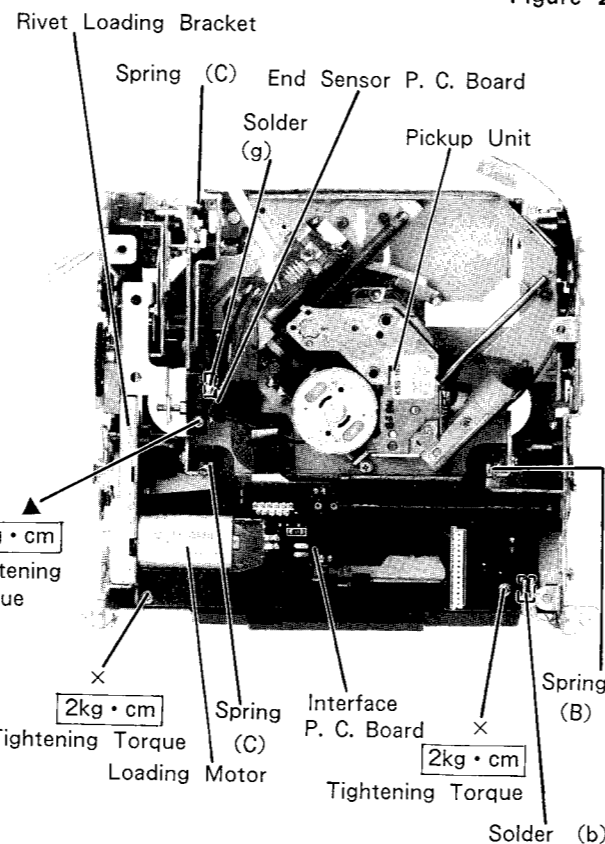

Figure 25
- (1) After removing the Main P. C. Board, unsolder the solder (b) as shown in Figure 25.
- (2) Remove two screws marked "x" as shown in Figure 25.
- (3) Remove two jumper wires connected to the loading motor.
- (1) After removing the Main P. C. Board, unsolder the solder (g) as shown in Figure 25.
- (2) Remove one screw marked "▲" as shown in Figure 25.
- (1) After removing the Main and Interface P. C. Boards, remove two springs (B) as shown in Figures 25 and 28.
- (3) Remove two springs (C), remove the damper from the Pickup Unit shaft, and then the Rivet Loading Bracket Assembly can be removed as shown in Figure 25.